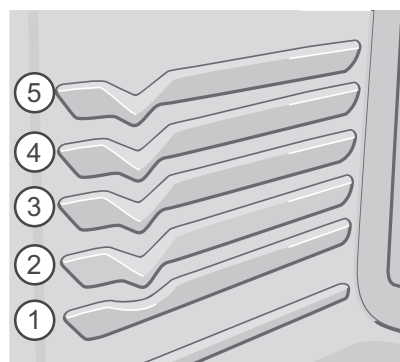

Figure 7: Suggested rack positions for convection baking
3. When using Convection Bake with a single rack, place oven rack in position 2 or 3. (Figure 7) If cooking on multiple racks, place the oven racks in positions 1 and 3.